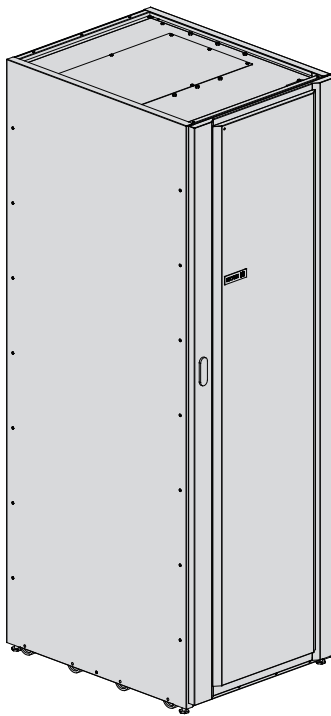

Figure 1-1. Eaton System Parallel Module
- Figure 1-1. Eaton System Parallel Module 1
Figure 1-1 shows the SPM.